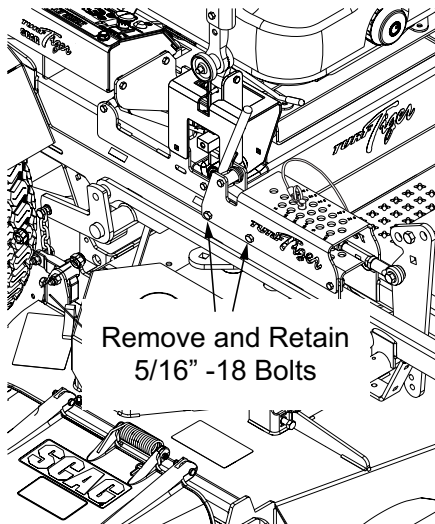

Figure 3-27. STTII Hardware Removal
4. Using a cable tie, retain the wires from the RF control module to the hole in the RF control module guard. See Figure 3-27.
5. Locate the "A" terminal on the key switch and install the green wire from the E-OCDC harness to the key switch. See Figure 3-27.
6. Plug the EOCD main wire harness into the RF control module. See Figure 3-27. DO NOT plug the EOCD motor harness into the RF control module at this time, this may cause movement of the linkages.